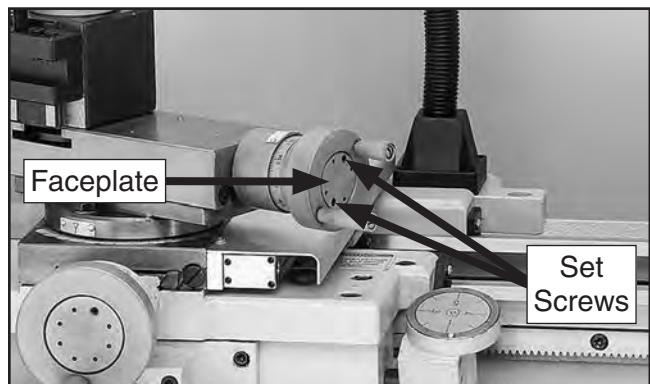

Figure 117. Compound slide backlash adjustments.
2. Loosen set screws on compound slide faceplate several turns (see **Figure 117**).